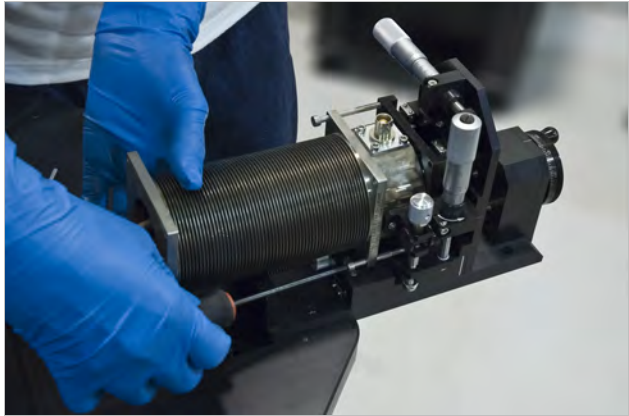

FIGURE 5-8 *Left: Remove the four horizontal screws that attach the bellows to the z-axis stage; Right: Compress the bellows to remove it from the probe arm*
1. Using the 3 mm hex driver, loosen the four long M4 horizontal screws that attach the bellows to the z-axis stage (FIGURE 5-8).
3. Compress the bellows to make room to slide it carefully off the probe arm. When you reach the end of the probe arm, you will need to tilt it up to remove it from the probe arm (FIGURE 5-8). Place the bellows on a clean, lint-free cloth or wipe.